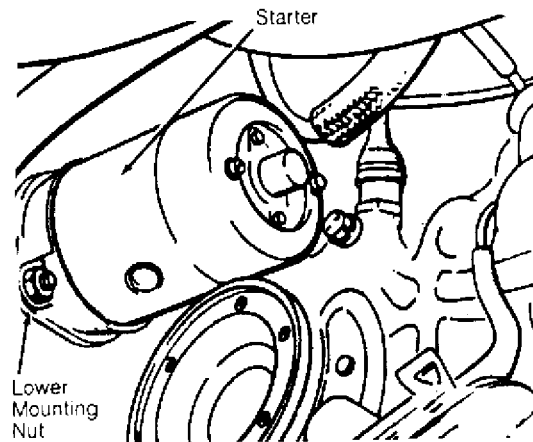

Fig. 3: Removing Starter (Vanagon)
6) Disconnect wires from starter solenoid. Remove lower mounting nut, push up slightly on starter and remove. See Fig. 3. To install, reverse removal procedure.